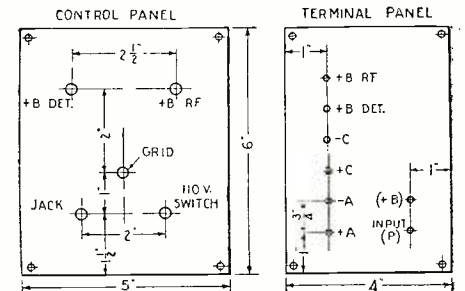

FIG. 6
Fig. 6 gives the size and location of the holes for the two small panels. One, located at the rear of the amplifier, contains all the necessary binding posts; while the other, which is located at the front, serves as a control panel and is equipped with the two plate-voltage and grid-bias controls, in addition to the 110-volt A.C. switch and the filament jack. The two panels are held in
- 2 Insulating Panels (Fig. 6);